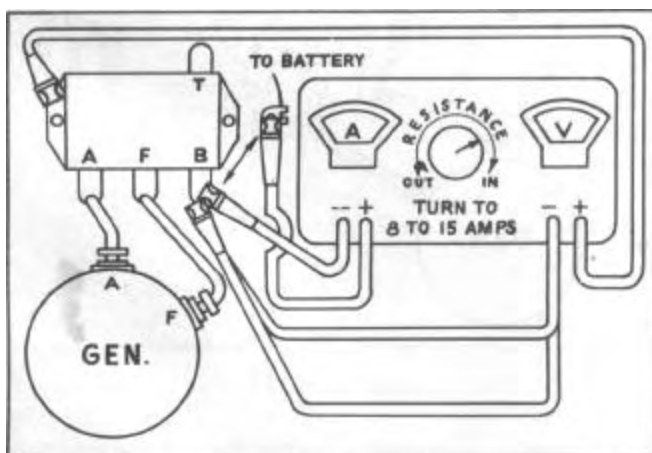

FIGURE 25
2. Connect the voltmeter positive lead to the regulator base and the negative lead to the regulator "B" terminal, Figure 25.